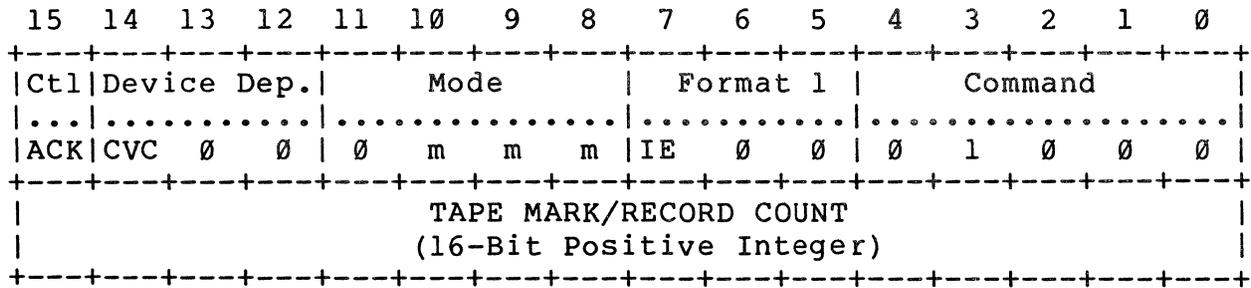

Figure 3-24 Position Command Packet
3.3.4.6 Position Command -- Figure 3-24 illustrates the Position command packet. This command causes tape to space records forward or reverse, skip tape marks forward or reverse, or to rewind to BOT. The tape-mark/record count is the second word of the command packet. This word is ignored for a Rewind command.